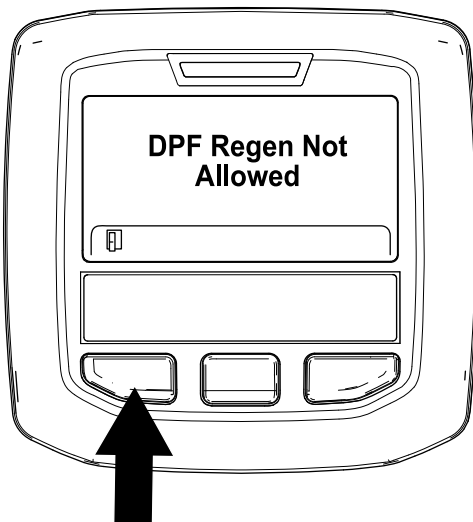

Figure 53
- If the regeneration process is not allowed by the engine computer, the "DPF Regen Not Allowed" message displays in the InfoCenter (Figure 53). Press the left button to exit to the home screen